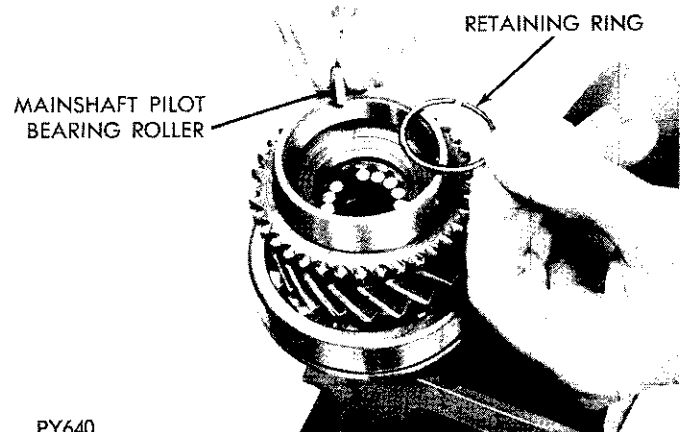

Fig. 25—Installing Rollers in Drive Pinion Gear
- (9) Install 15 rollers and retaining ring in gear (Fig. 25).